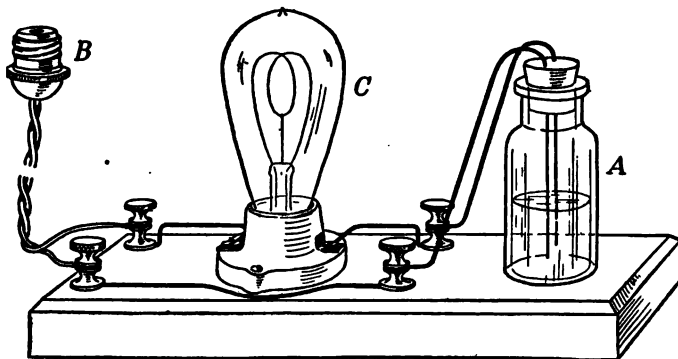

FIG. 36
**72. Conducting power of various solutions.** *a.* Obtain a conductivity apparatus (Fig. 36) from the storeroom and polish the copper-wire electrodes with emery paper until they are bright and free from oxide. At the beginning of each experiment see that the electrodes are bright and dry, and
**74. Relative strength of acids.** *a*. Obtain from your instructor about 15 cc. of twice normal solutions of each of the following acids: hydrochloric, sulfuric, and acetic. Test their relative conductivities (Fig. 36) by noting the brilliancy of the light evolved in each case (three students should work together, each using a different acid). Note the results.